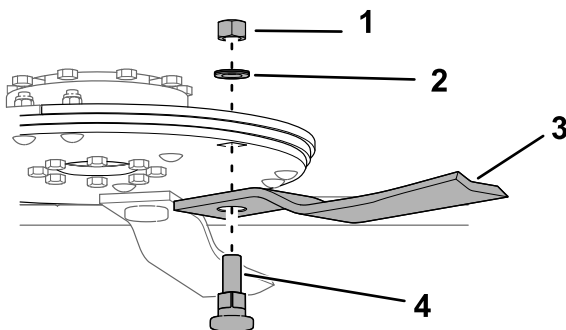

Figure 10
3. With assistance from another person, install a new blade, nut, washer, and bolt (Figure 10).